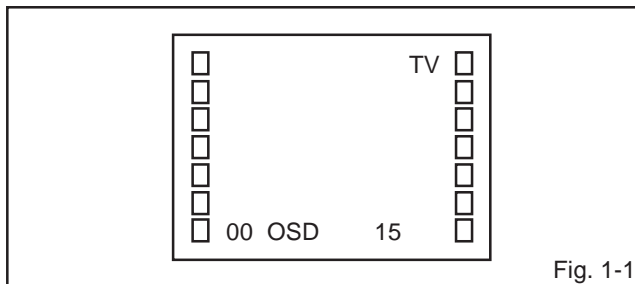

Fig. 1-1
1. In the condition of NO indication on the screen. Press the VOL. DOWN button on the set and the Channel button (9) on the remote control for more than 1 second to appear the adjustment mode on the screen as shown in Fig. 1-1.
3. Activate the adjustment mode display of Fig. 1-1 and press the channel button (02) on the remote control to select "RF DELAY".
3. Activate the adjustment mode display of Fig. 1-1 and press the channel button (01) on the remote control to select "CUT OFF".
4. Activate the adjustment mode display of Fig. 1-1 and press the channel button (10) on the remote control to select "R.BIAS".